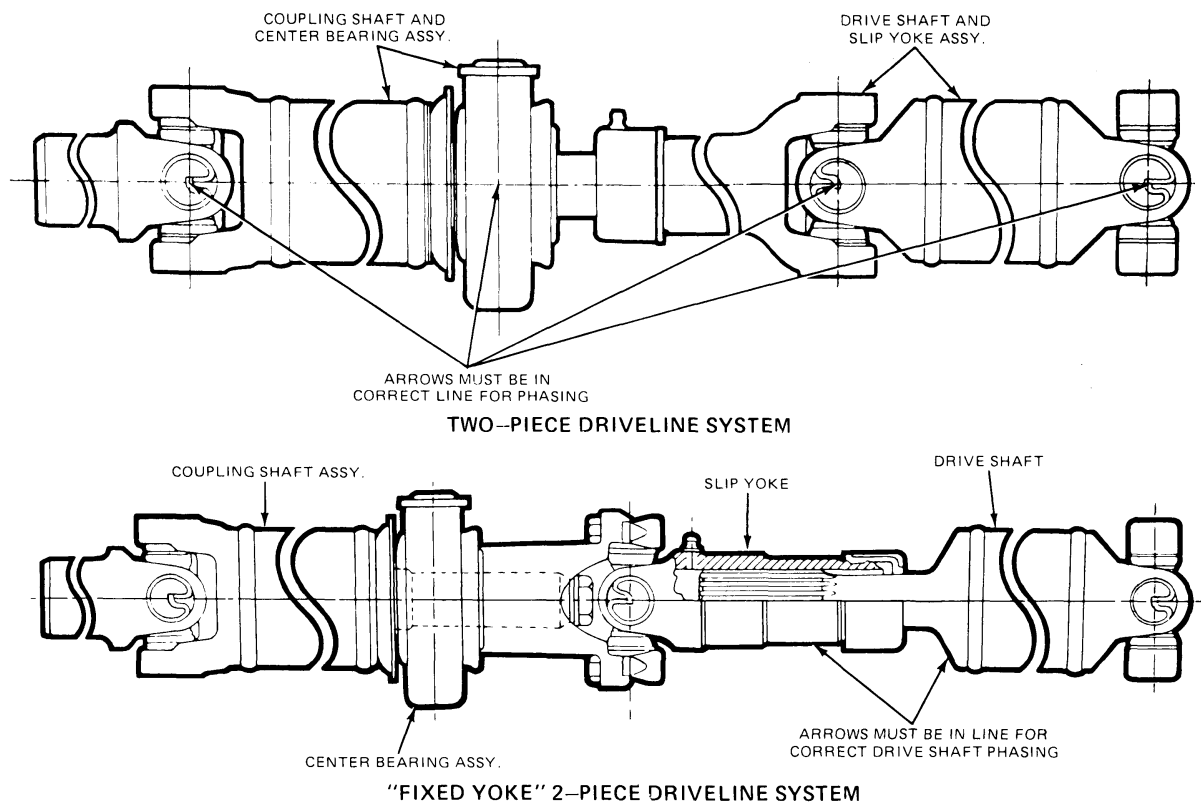

FIG. 21 U-Joint Phasing
1. Check coupling shaft for proper phasing, this part (Fig. 21) as applicable. Check all U-joint to companion flange installations for improperly seated U-joint bearing caps.
When U-joint yokes are assembled to their shafts in the same plane, they are in phase (Fig. 21). When they are assembled to the shafts in different planes, they are out of phase.
To obtain vibration-free operation, check and correct as necessary, (Fig. 21).